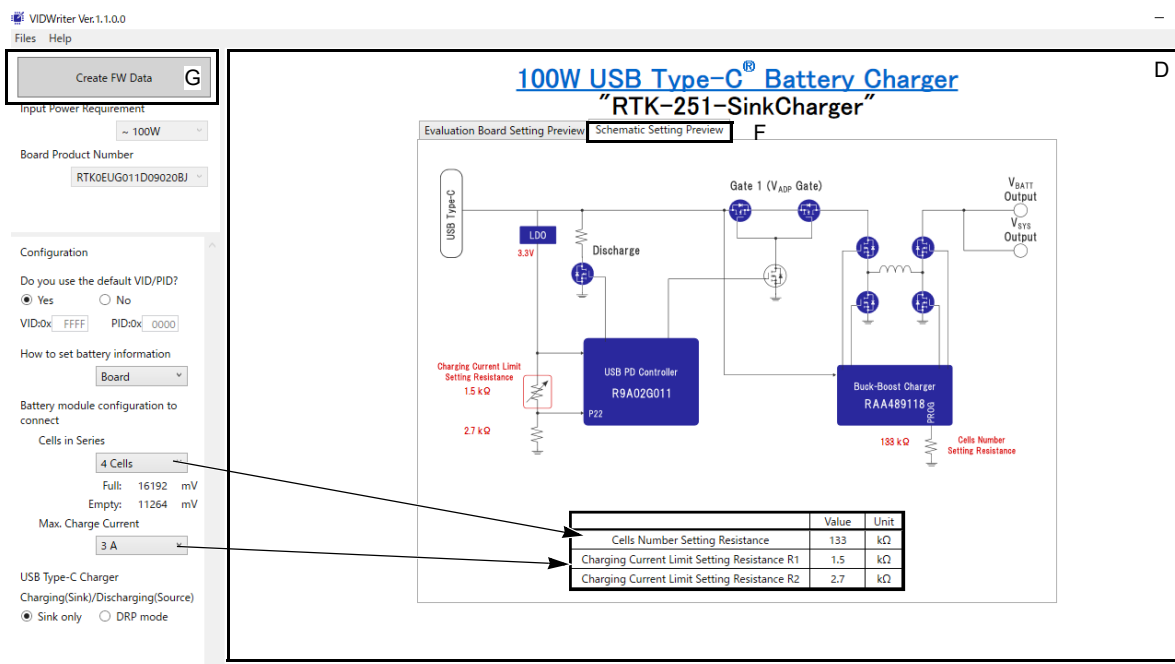

Figure 14. Main Window for VIDWriter 1.1.0.0 when Press Schematic Setting
- Press the **Schematic Setting Preview** F tab in field D and the recommended turnkey schematics with appropriated parameters are displayed, such as Figure 14.